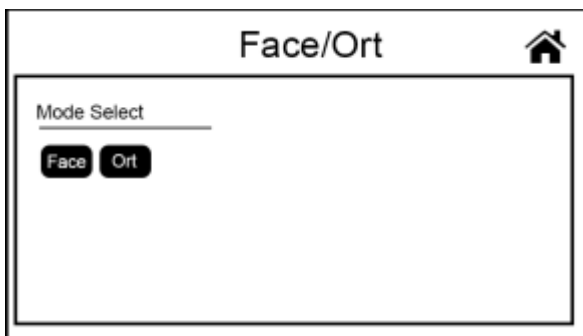
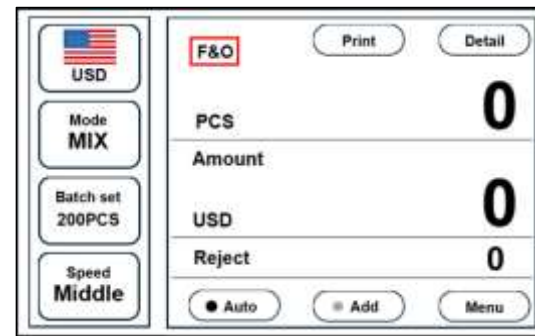

Figure 70
Figure 71
6) When the “Face” and “Ort” buttons are selected at the same time, the bottom color of the two buttons will change to blue, as in Figure 70. Touch the “” key on the upper right corner of the screen to return to the previous interface. The upper area of the main interface displays the “F&O” information, as in Figure 71. At this time, when the banknotes are counted, the machine will take the face and orientation of the first banknote as the standard, and the banknotes with different faces and orientations will be kicked into the reject pocket.